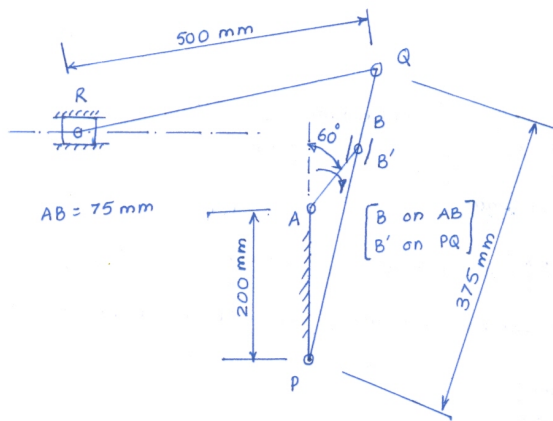

Fig. 1, Q. 1 (a), (b)
- Q-1 (a)** The driving crank AB of the quick return mechanism shown in **Figure 1** revolves at a uniform speed of 200 rpm. Find the velocity of tool box R, when the crank makes an angle of 60 degree with the vertical line of centers PA. Also show the velocity of block B along the slotted lever PQ. Use graphical method. **07**
- (b)** For the Figure 1 find out the acceleration of the tool-box R. Use graphical method. **07**